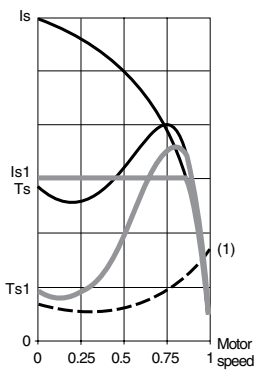

Figure 1
- Figure 1 shows the behavior of the torque in relation to the starting current. Limiting the starting current I_{s1} to a preset value will reduce the starting torque T_{s1} to a value which is almost equal to the ratio of the square of currents I_s and I_{s1} .